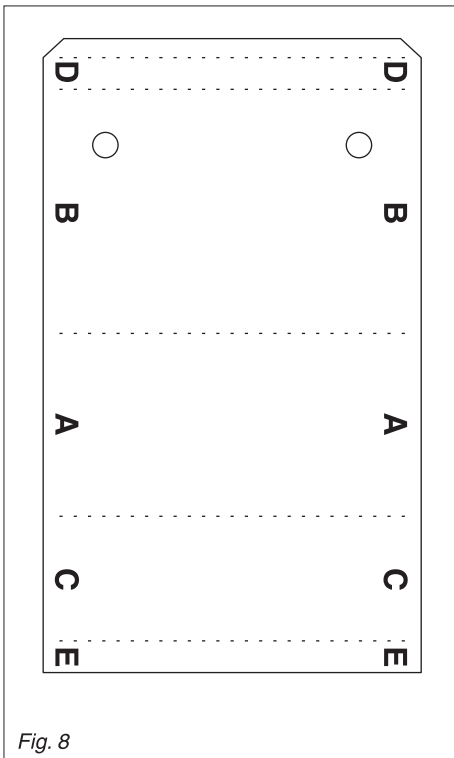

Fig. 8
Step 35: Detach the rear panel of the holder [D1] from the cardboard, write your name in the area provided and apply the letter markings A, B, C, D and E to the back (see Fig. 8). This will simplify assembling the side pieces.